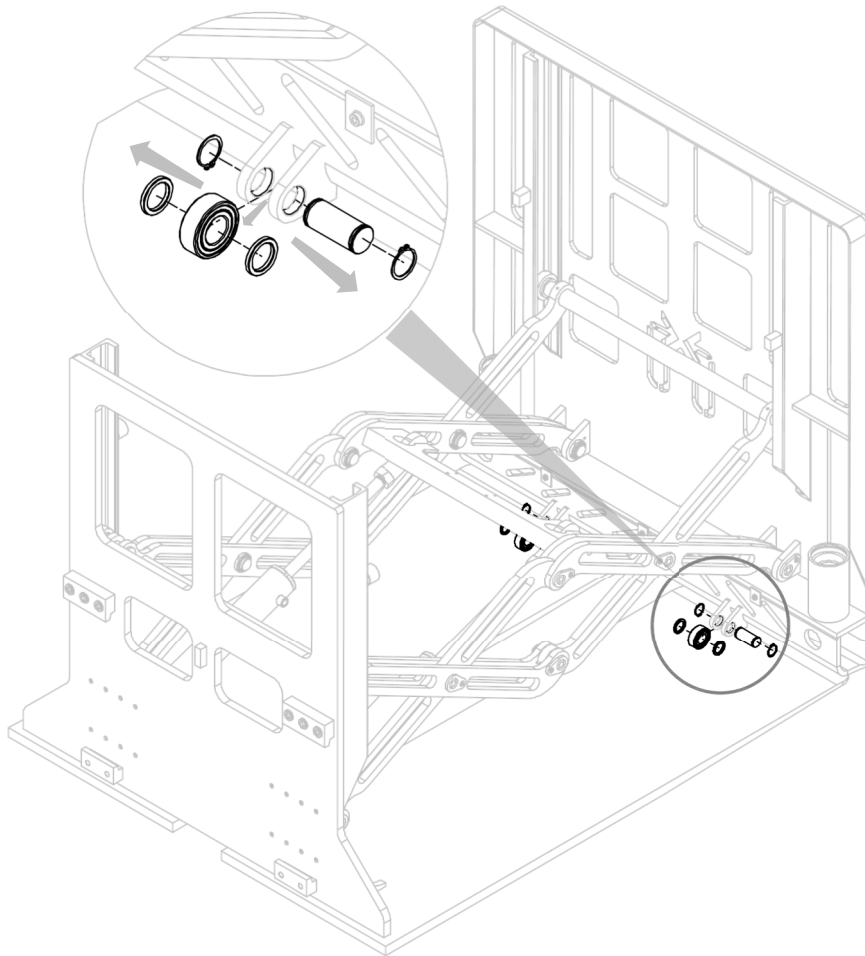

Figure 17
2. Remove the sliding bearings (with their spacers) after removing the pins (with their snap rings) that hold them (see *Figure 17*).